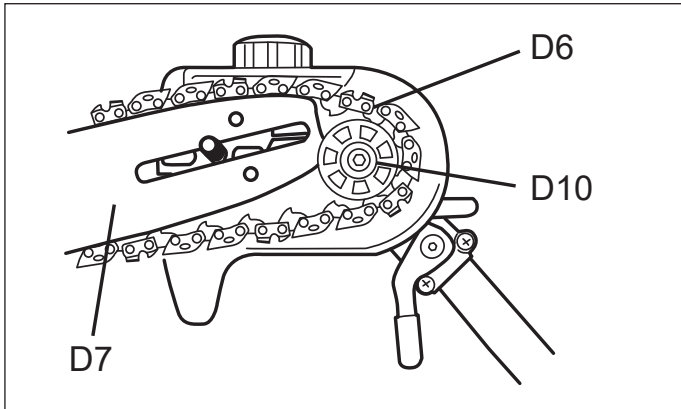

Fig. 7d
- f). Align the saw chain around the drive sprocket (D10) and place one corner of the guide bar into a gap of the sprocket. (See Fig. 7d)